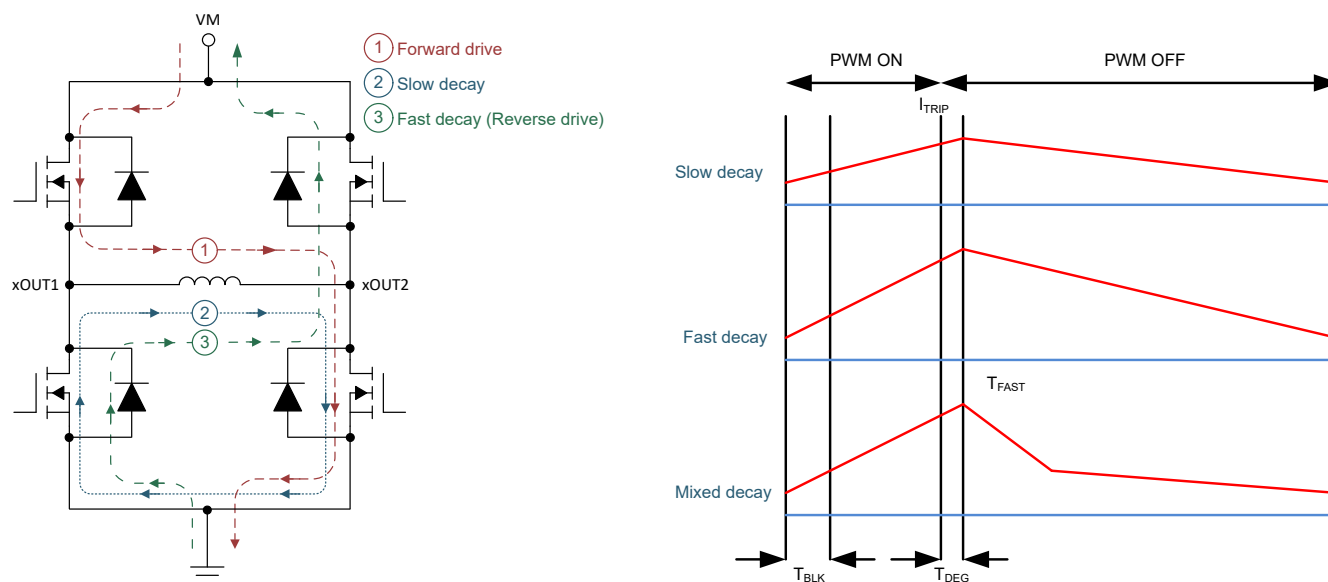

Figure 8-6. Decay Modes
The current through the motor windings is regulated by an adjustable, off-time PWM current-regulation circuit. When an H-bridge is enabled, current rises through the winding at a rate dependent on the DC voltage, inductance of the winding, and the magnitude of the back EMF present. When the current hits the current regulation threshold (as shown in Figure 8-6, Item 1), the bridge enters a decay mode determined by the DECAY pin setting to decrease the current. After the off-time expires, the bridge is re-enabled, starting another PWM cycle.
- In fast decay mode, as soon as the PWM chopping current level is reached, the H-bridge reverses state by switching on the opposite arm MOSFETs to allow the winding current to flow in the opposite direction. As the winding current approaches zero, the H-bridge is disabled to prevent further reverse current flow. Fast decay mode is shown in Figure 8-6, item 3.
- In slow decay mode, the winding current is re-circulated by enabling both low-side MOSFETs in the H-bridge. This is shown in Figure 8-6, Item 2.